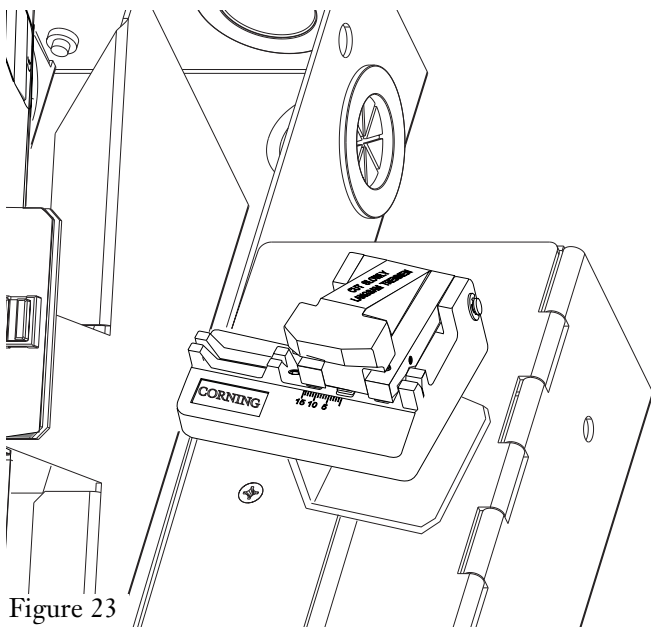

Figure 23
6.9 Use the provided screw and washer to attach the cleaver mounting bracket to the long slot on one of the tool storage compartment doors (Figure 23).